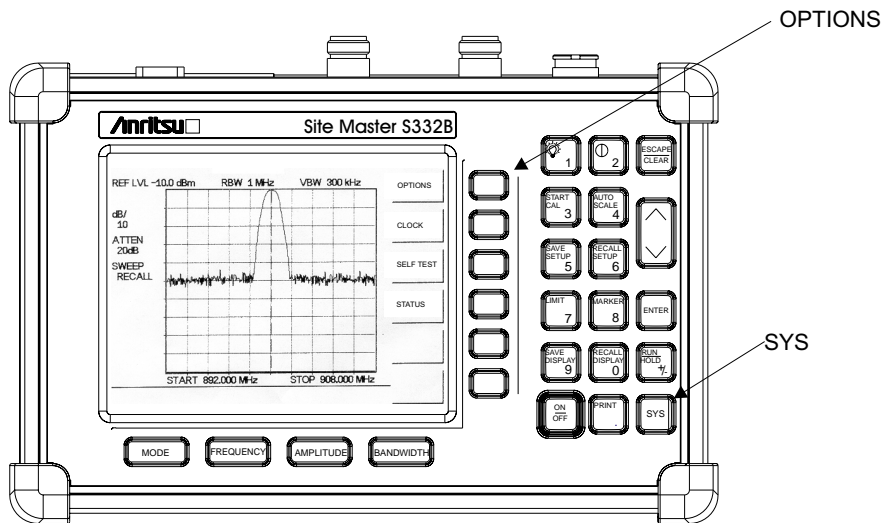

Figure 3-12. SYS Key and OPTIONS Soft Key
**Step 3.** Press the **SYS** key and the **OPTIONS** soft key (Figure 3-12).